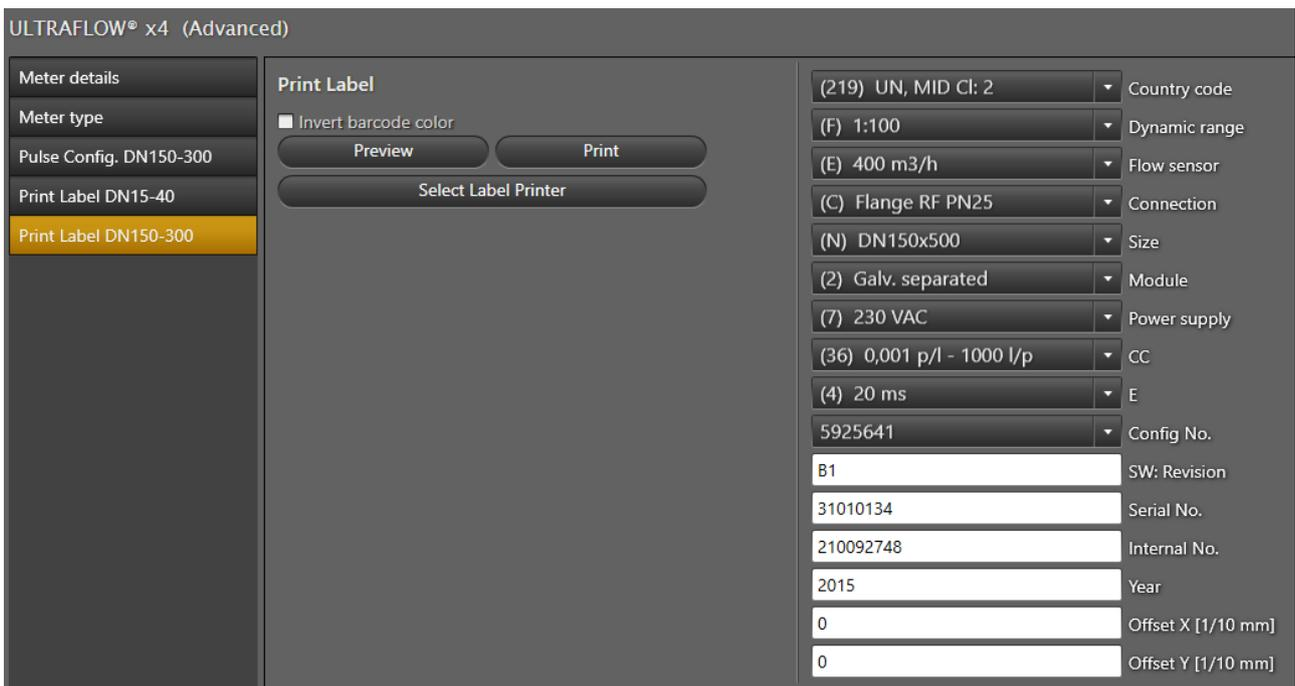

Figure 53: The “Print label DN150-300” tab
- Preview** When the label is set up as desired, you can see a print preview by clicking this button, see *Figure 53*.